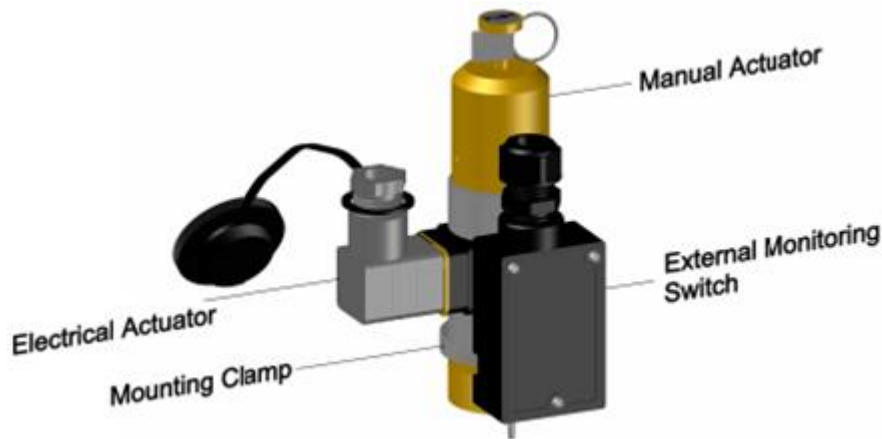

Figure 48: External Monitoring Switch Installation
- c. Mount the external monitoring switch onto the electrical actuator body with mounting clamps. Tighten the mounting clamp to the electrical actuator body. (See Figure 48)